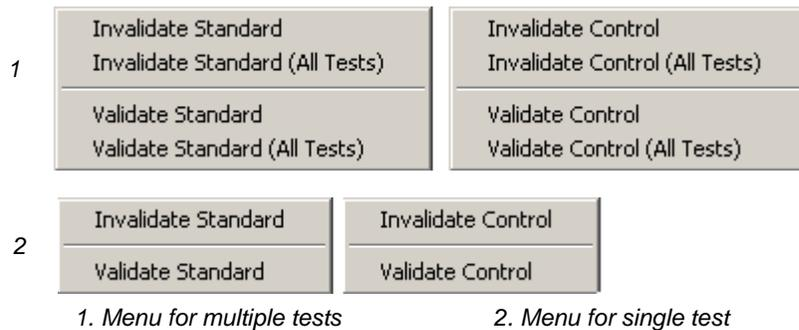

Figure 54 Invalidate and Validate Shortcut Menus
1. Right-click in the row containing the standard or control you want to validate or invalidate. See Figure 54. Select the desired menu item to apply. When invalidating, the **Name** box turns red with an asterisk preceding it. When validating, the Name box reverts to black text.